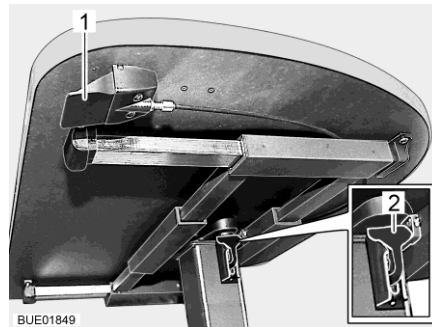

Fig. 87 Lift-off table with release button
- Pull or press down the catch lever (Fig. 87,2).
- Press the catch lever (Fig. 87,2) upwards.
- Press the release button (Fig. 87,1) and hold it down. The table top moves automatically upwards to the limit stop.
- Release the release button (Fig. 87,1). The table top remains in the desired position.
- Press the release button (Fig. 87,1) and hold it down.
- Release the release button (Fig. 87,1). The table top remains in the lowest position.